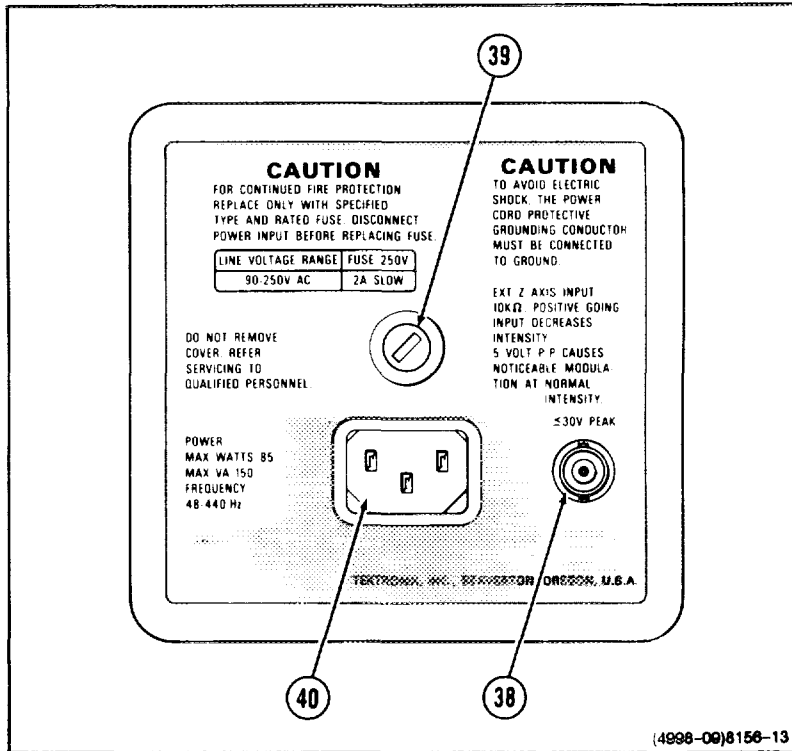

Figure 3-7. Rear panel.
Refer to Figure 3-7 for location of items 38 through 40.